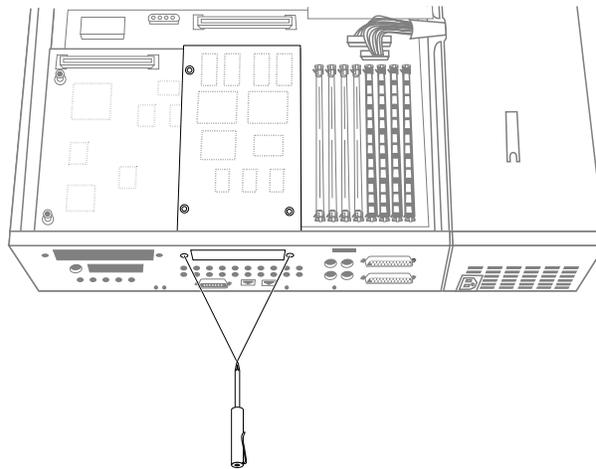

Figure 1-7 Removing the Screws From the Rear Panel
2. Using the Phillips screwdriver provided with this upgrade kit, remove the two screws from the GIO board connector on the rear of the workstation, as shown in Figure 1-7.